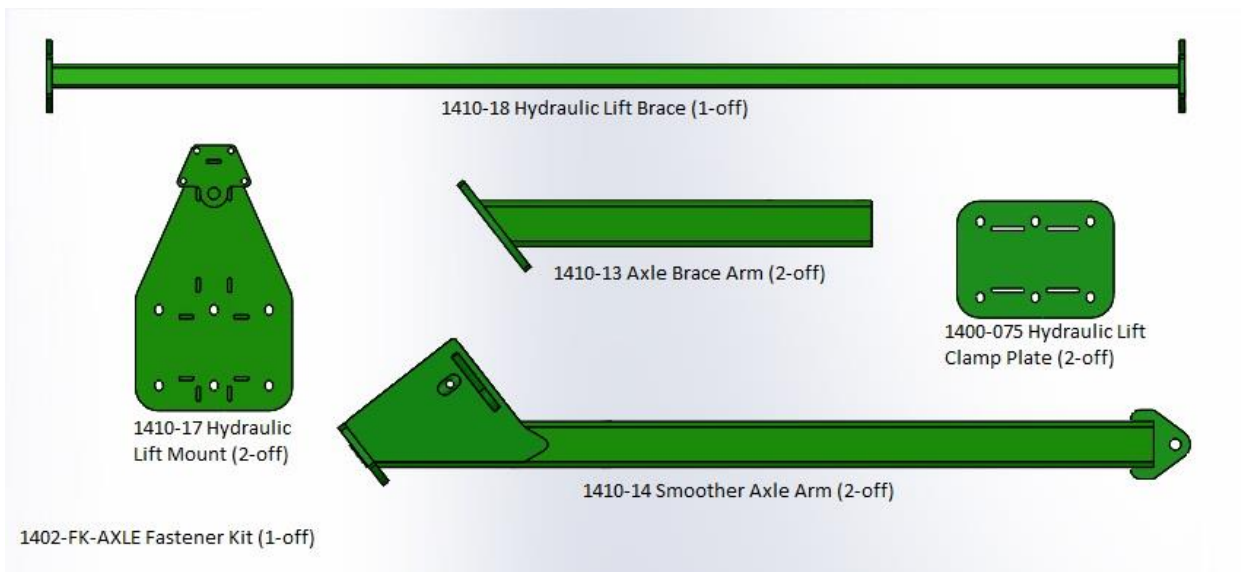

Figure 3: Contents of 1410-AXLE KIT
1. Attach the Smoother Axle Arms (1410-14) to the main Smoother Axle Beam as shown in Figure 3, using 2-off M24x65mm bolts – hand-tighten bolts only to allow for addition of further components.